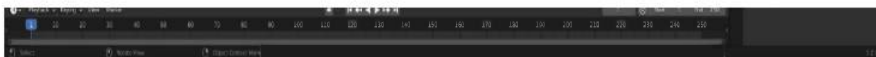

Figure 3.6: Add Mesh: Extra Objects add-on enabled via Edit > Preferences > Add-ons
2. Click the white triangle to the left of the text to see a description of this Extra feature, and the location where it now appears in Blender’s menu, as shown in *Figure 3.6*: